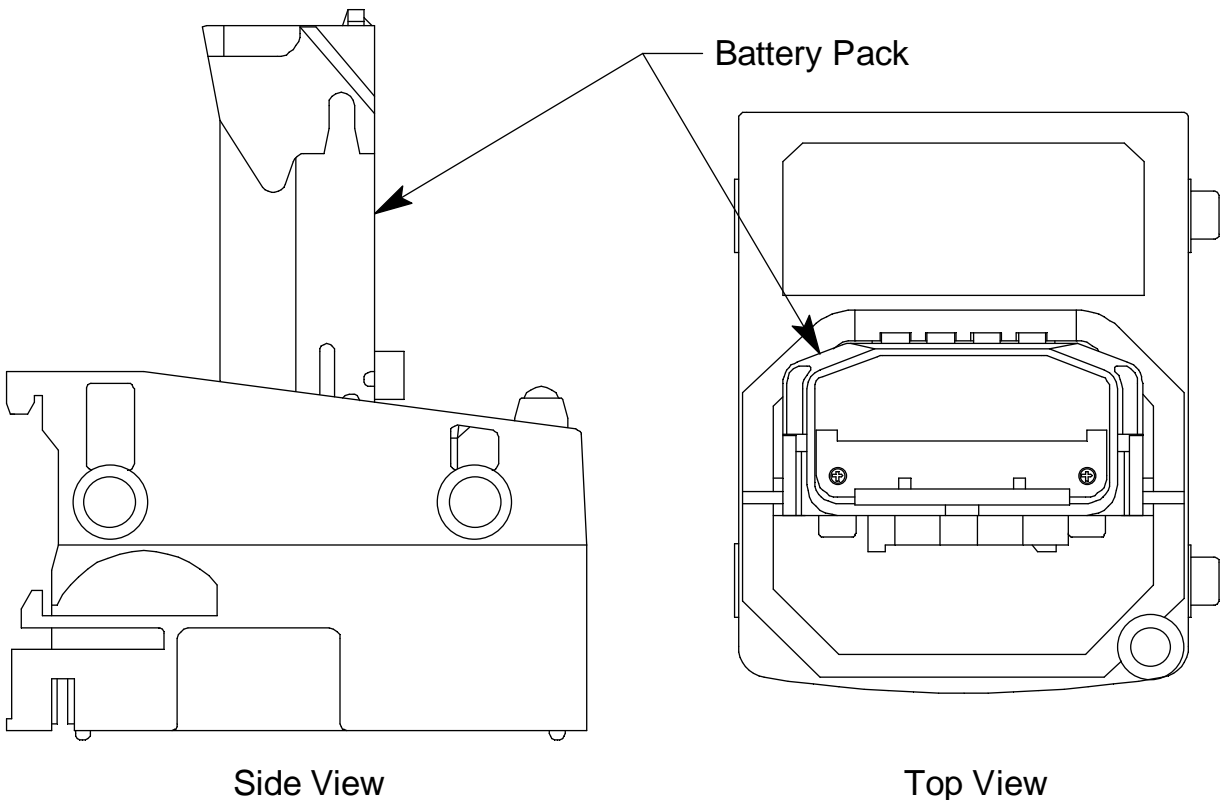

Figure 14: Putting the Battery Pack into the Charging Station
5. Insert the battery pack into the charging station as shown in Figure 14 below so that the metal contacts on the back of the battery pack come into contact with the metal contacts in the charging station. When proper contact has been made, the red LED on the charging station will turn on.